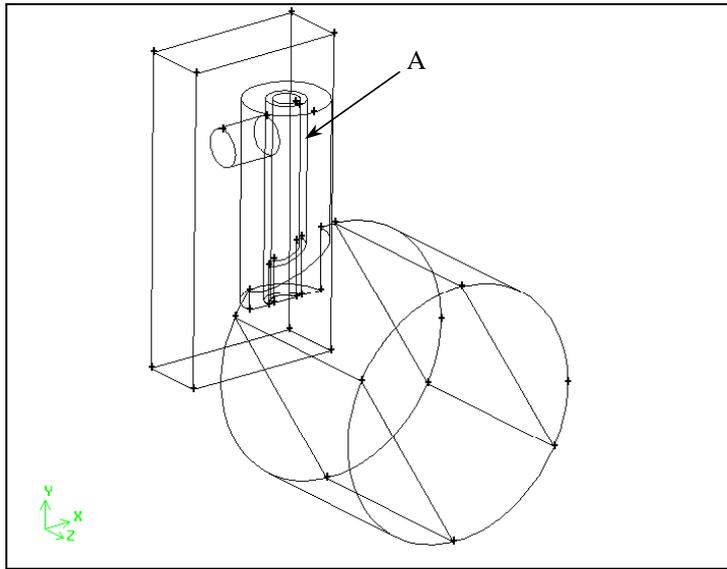

Figure 7-17: Volume to use in subtraction
a) Select the volume that contains most of the pipe sections in the geometry (the volume marked A in Figure 7-17). Accept the selection of the volume.